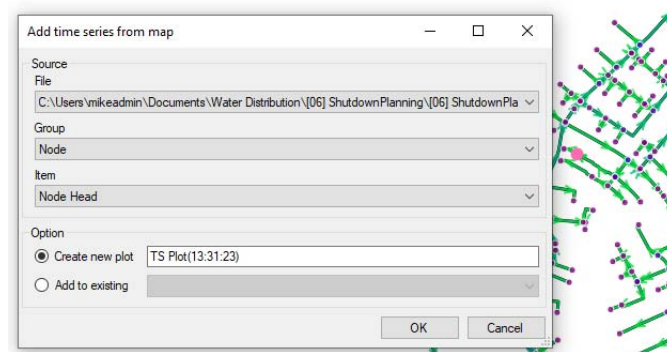

Figure 20.21 The 'TS from map' tool, to select result locations from the map
- **TS from map.** This tool allows for creating a time series plot directly from a selected item on the map (Figure 20.21). The 'Add time series from map' dialog appears, wherein one specifies: